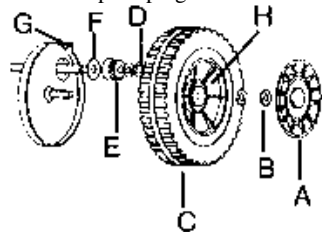

Figure 11 - Drive Wheel Cleaning / Lube
4.3 Drive Wheel Cleaning (Refer Fig. 11)
4.4 Drive Pawl Lubrication (Refer Fig. 11)
4.5 Drive Pinion Lubrication (Refer Fig. 11)